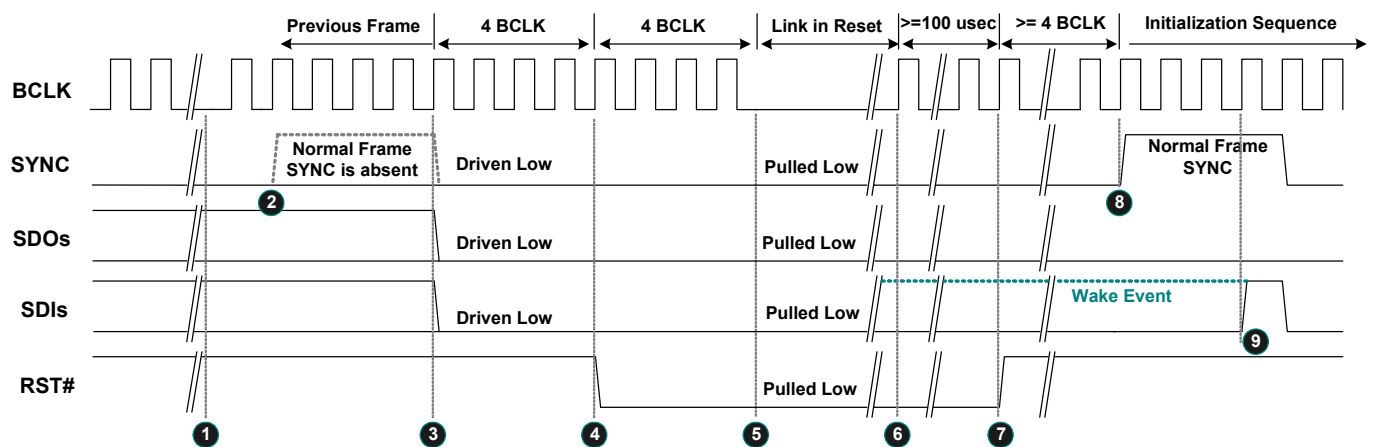

Figure 14. Link Reset Timing
3. Software initiates power management sequences. Figure 14, page 21, shows the ‘Link Reset’ timing including the ‘Enter’ sequence (❶~❺) and ‘Exit’ sequence (❻~❾)